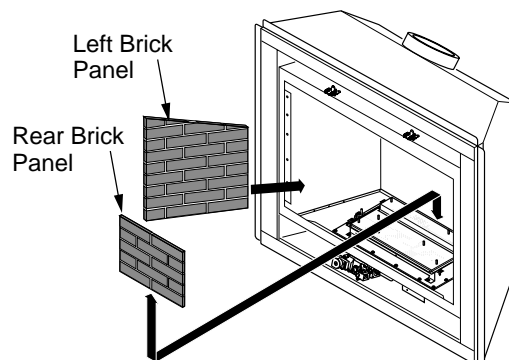

Figure 38 - Installing Rear, Left and Right Brick Panels
5. Install rear brick panel first. Rest bottom edge of panel on back edge of grate (see Figure 38).
6. Install left side brick panel by sliding it between the grate and the side of the firebox (see Figure 38).